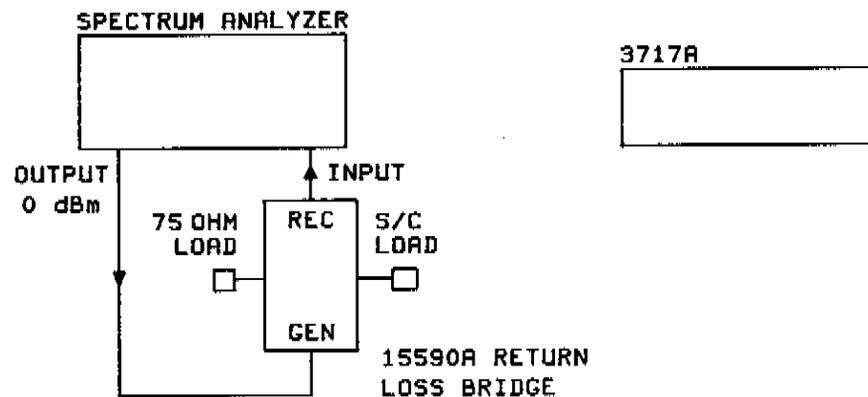

Figure 4-2 BB Return Loss Test
1. Connect the equipment as shown in Figure 4-2.